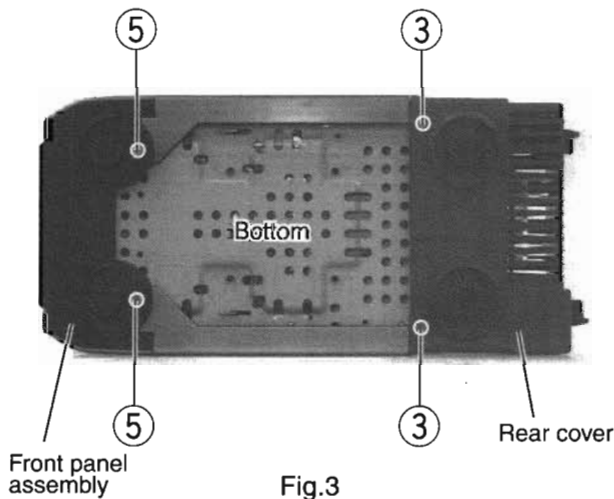

Fig.3
■ Removing Side panels and Ornament panels (see Fig.3 - 5)
2. Remove the two screws ④ attaching side panels on the left and right side of the body.
3. Remove the two screws ⑤ attaching the side panels in the bottom of the body. (see Fig.3)